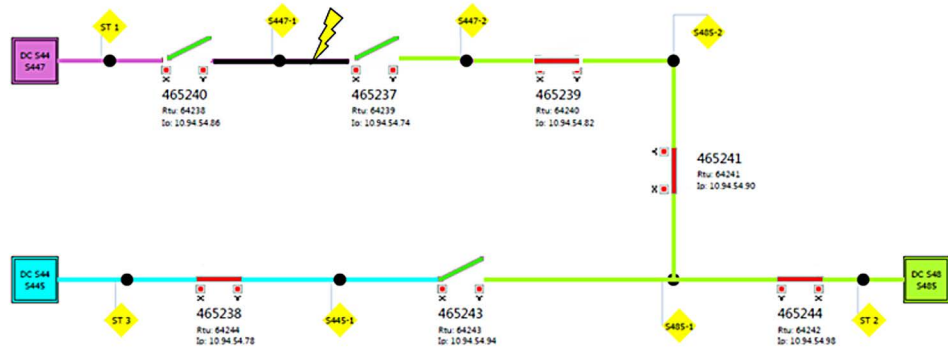

Figure 2. The IntelliTeam SG restoration result after the single-phase trip and lockout event.
- STEP 4.** IntelliRupter fault interrupter 465240 (B-phase) and IntelliRupter fault interrupter 465237 (three-phase) remain open to isolate the faulted section. See Figures 2 and 3 on page 2.